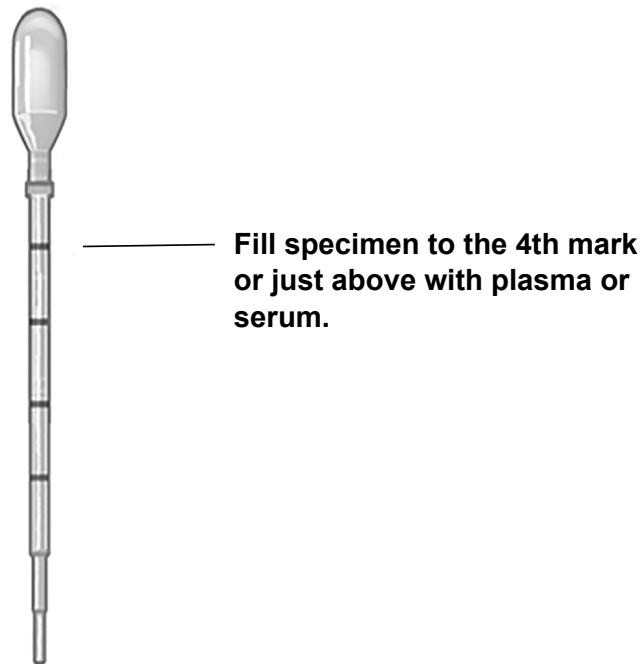
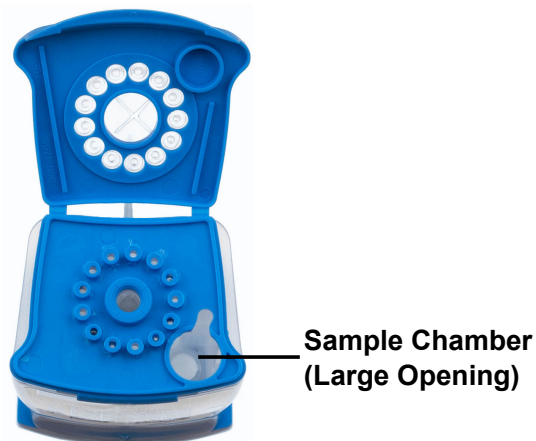

Figure 1. Xpert HBV VL Test Transfer Pipette
Figure 2. Xpert HBV VL Cartridge (Top View)
- **Option 1:** If using the transfer pipette included in the kit (see Figure 1), fill the pipette to the fourth mark (1.0 mL) or slightly above with plasma or serum from the collection tube. Empty the contents of the pipette into the sample chamber of the cartridge (see Figure 2).
- **Option 2:** If using a precision pipette, transfer 0.6 mL plasma or serum from the collection tube into the sample chamber of the cartridge (see Figure 2).